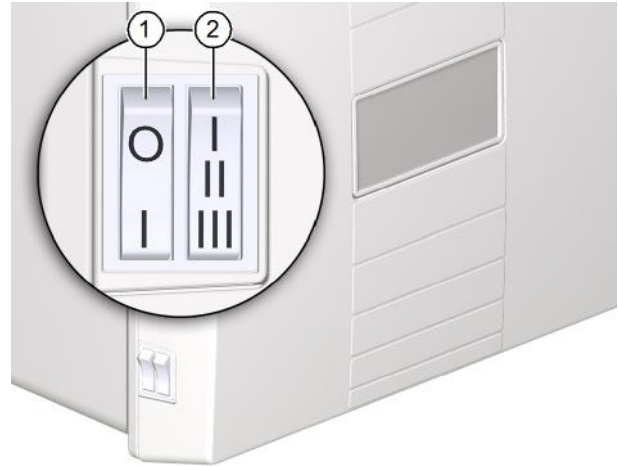

Fig. 10: Controls on the ventilation unit
- ▶ Switch the ventilation unit on at the mains switch (item 1 in Fig. 10 on page 16).
Using the stepping switch (item 2 in Fig. 10 on page 16) for three power levels and a time-limited intensive ventilation level, you can select the required air flow.